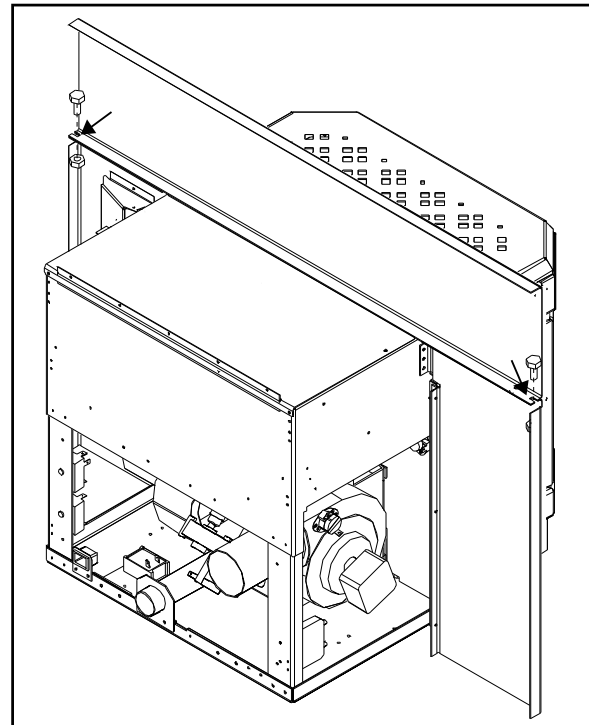

Figure 38: Assembling the Surround Panel, back view.
- Insert each side panel anchor bolt through the top panel into the corresponding side panel holes and tighten using a  $\frac{7}{16}$ " wench or socket (refer to Figure 38).